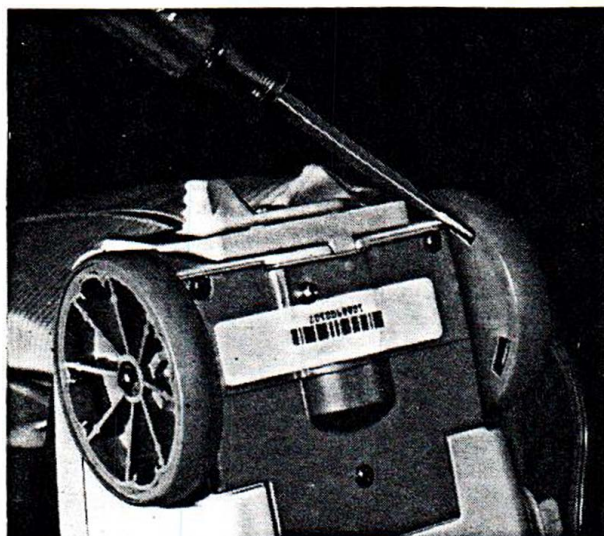

Figure 25. Drive Wheel Cover and Wheel Replacement
- A. See Figure 25. Insert a thin bladed slot head screwdriver through slots in back of wheel and gently twist to release spring tabs of wheel covers. Lift off wheel covers.